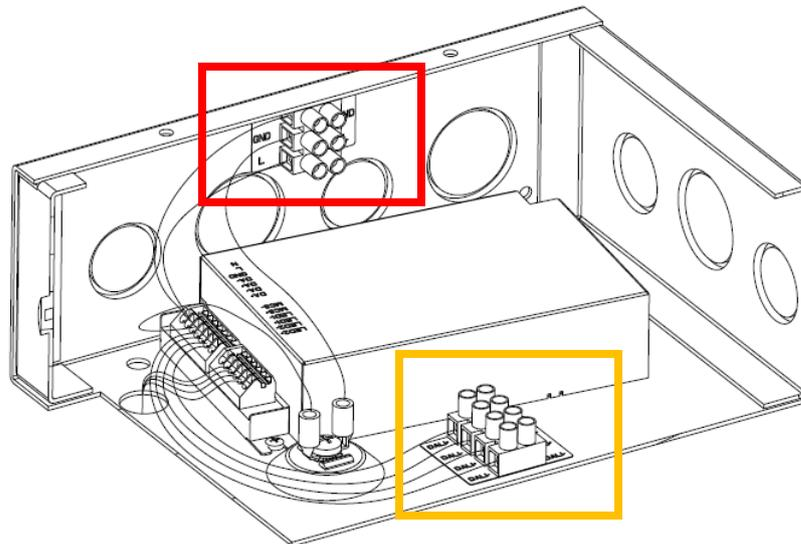
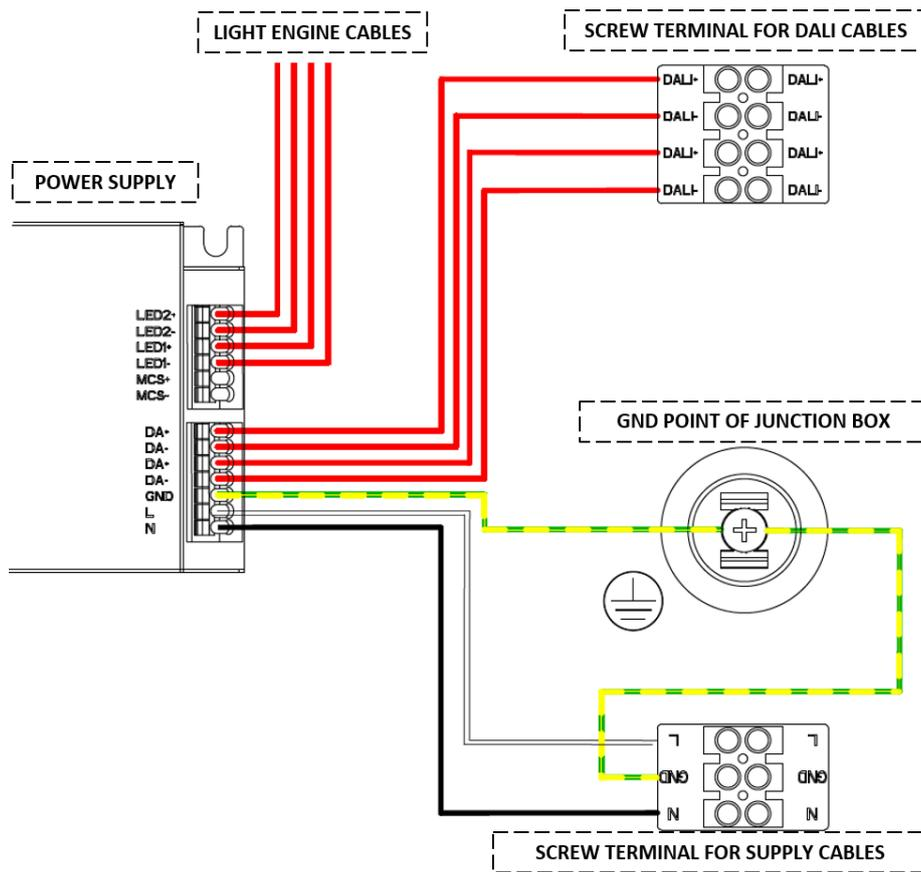
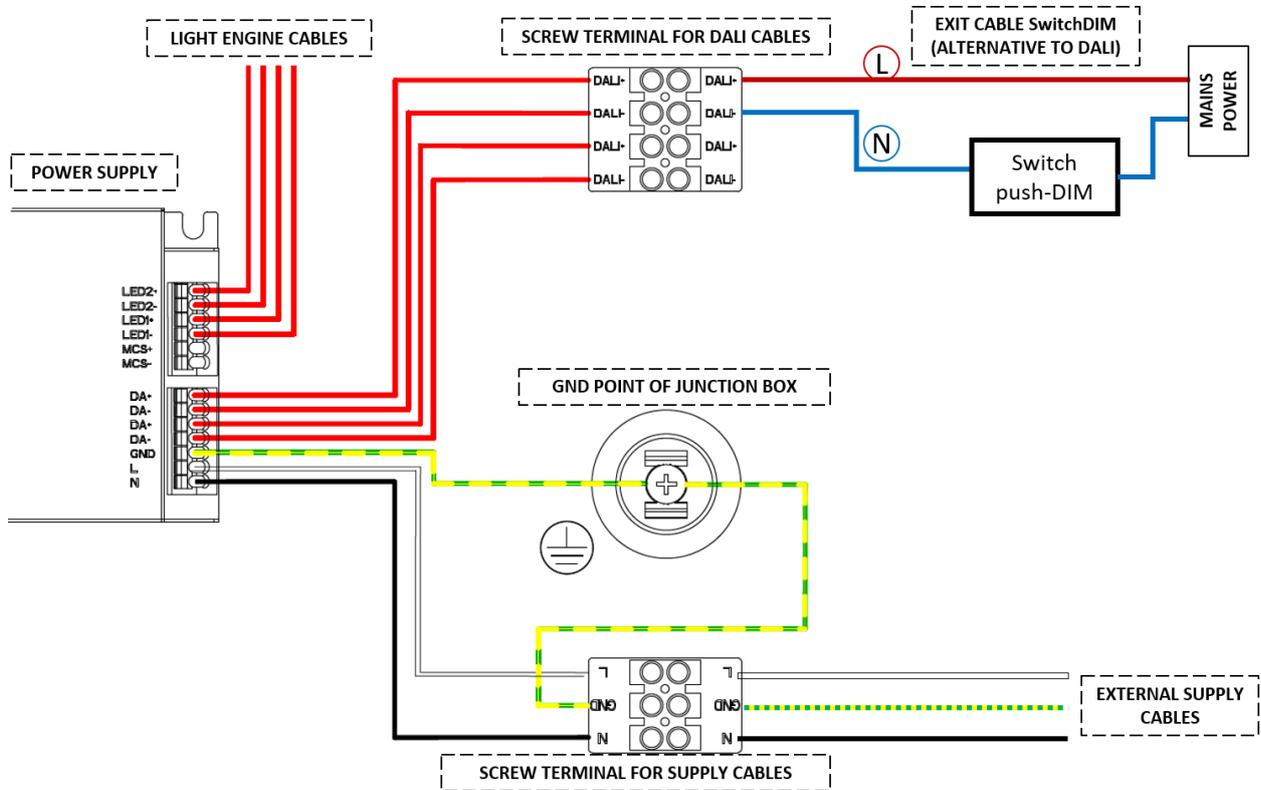

Fig. 17 *Junction box. Red square: supply cables terminal board
Fig. 18 Electrical diagram for connections in the junction box
Fig. 21 Electrical diagram for connections with the external SwitchDIM cabling
- A. Open the lid of the junction box above the product, alongside the label. You will find the power supply unit and two screw terminal boards, as shown in Figure 17. Figure 18 shows the connections diagram.
You can use a pair of DA+ and DA- ports (from the terminal board shown by the orange rectangle in Figure 17) for the SwitchDIM (alternative to DALI only in case of single system installation) to connect in series two additional phase (L) and neutral (N) lines, respectively, and add a switch to one of the two lines, which enables the ON/OFF function and the light intensity to be varied (Figure 21).